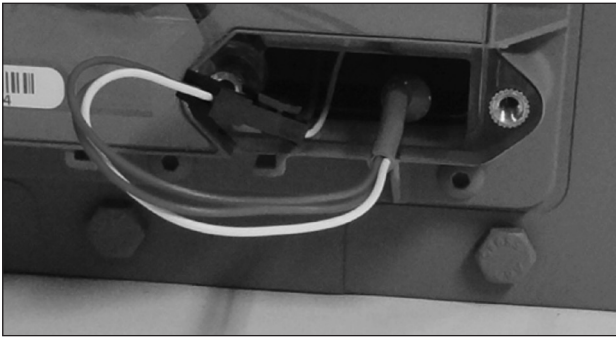

Figure 9.24 - Push temperature probe into probe well
11. Push the temperature probe all the way into the probe well as shown in Figure 9.24.